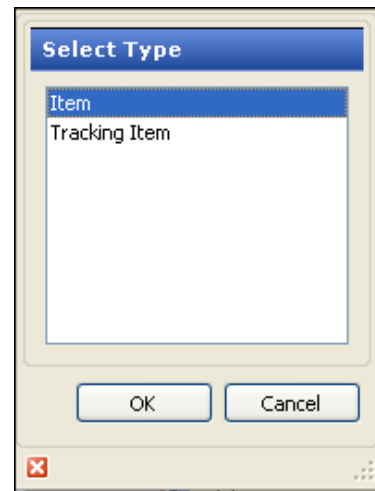

Figure 58 Select Type (Bins)
2. Click the **New drop-down arrow**, select either **Item** or **Tracking Item** and **OK** from the Type dialog box (Figure 58).
2. Click the **New drop-down arrow**, select either **Item** or **Tracking Item** and **OK** from the Select Type dialog box (Figure 58).